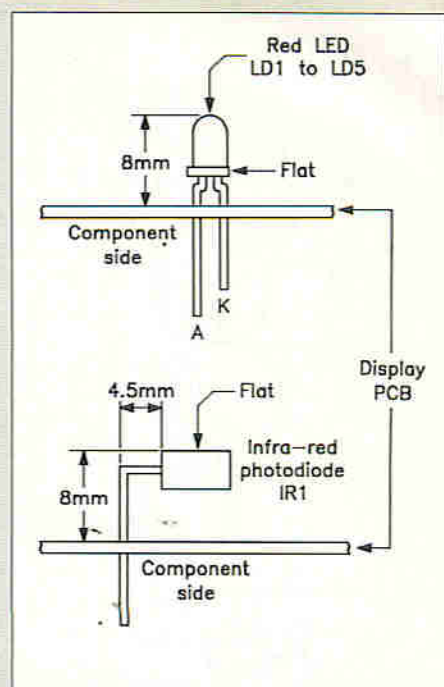

Figure 8. Mounting the LED's and Infra-Red Photodiode.
- 4) Referring to the information provided in Figure 8, mount LD1 to LD5 and IR1.